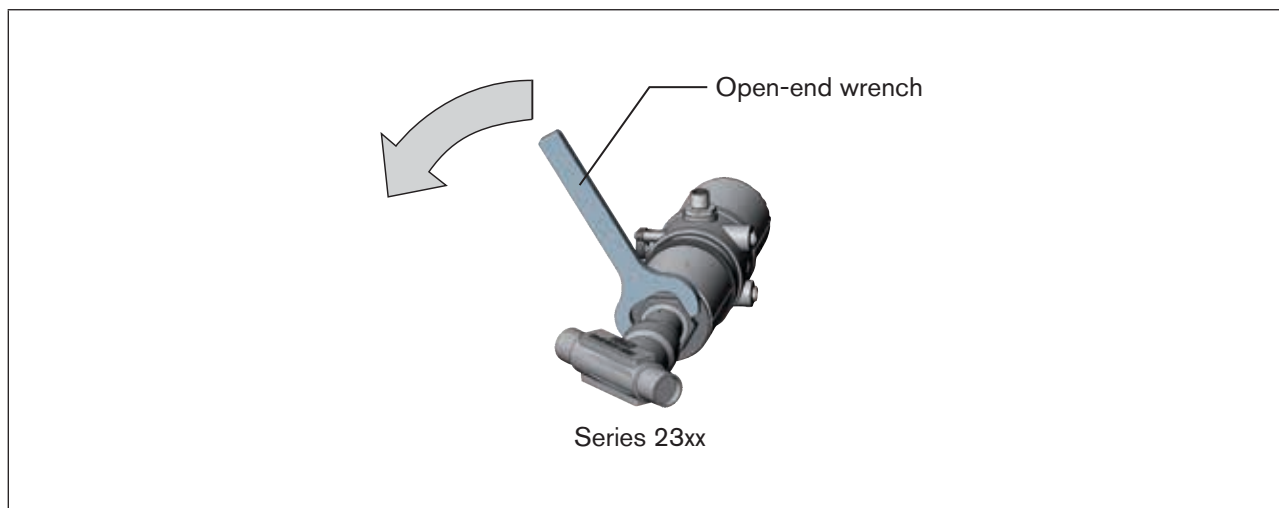

Figure 22: Rotating open-end wrench
▶ Rotate the actuator module counter-clockwise only (see "Figure 22").